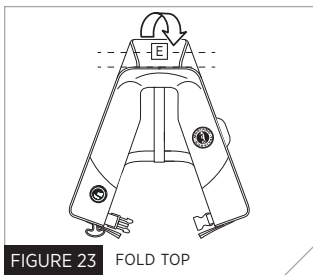
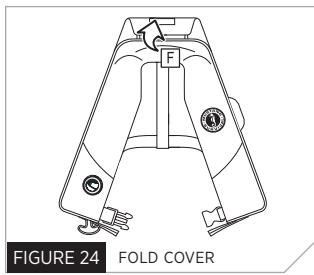

FIGURE 23 FOLD TOP
FIGURE 24 FOLD COVER
4. Fold over the top side (E) (Fig. 23) into thirds, and fold cover (F) back (Fig. 24).